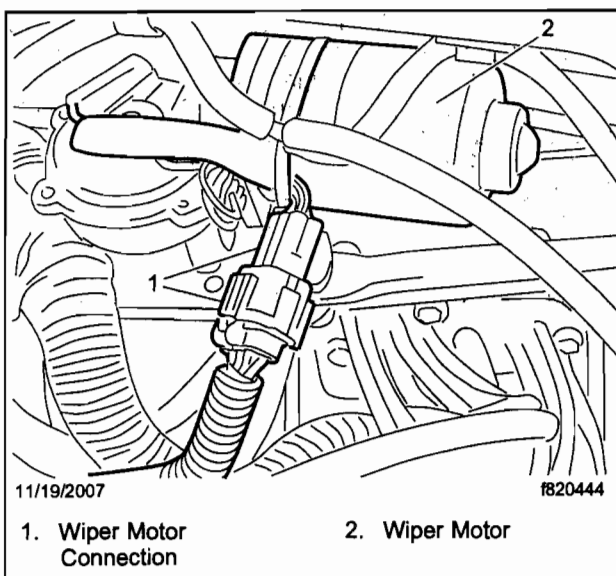

Fig. 1, Left Side of Frontwall
4. On the left side of the frontwall, find the wiring connection for the wiper motor. See Fig. 1.